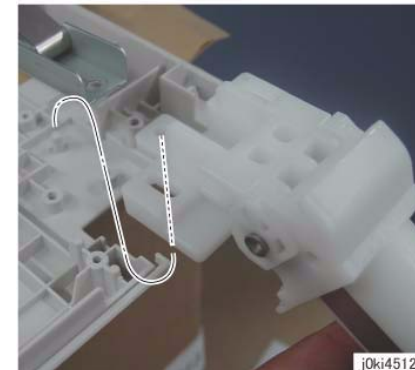

Figure 3 Installing the Left Counter Balance
2. When installing the Left Counter Balance, align the hole of the Left Counter Balance to the positioning boss of the Frame. (Figure 3)